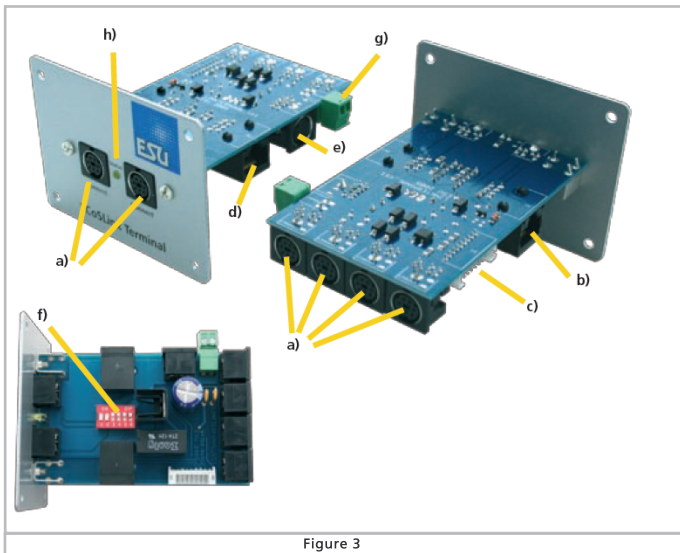

Figure 3
As shown in Figure 3 the ECoSLink Terminal has two sockets on the front and four sockets at the rear. The front sockets are primarily intended for hand throttles or controllers. The hand controller can always be unplugged and plugged in at another location as the ECoSLink bus is "hot plug" capable. The rear jacks are provided for Booster and feedback modules.
- Connect one end of the cable to the bus output RJ45 socket of the first ECoSLink Terminal, see Figure 3, item d, and then,
- Connect the other end of the cable to the bus input RJ45 socket of the second ECoSLink Terminal, see Figure 3, item b. Take great care not to confuse the input and output sockets.
The PSU is connected to the external power supply input, see Figure 3, item g, on the ECoSLink Terminal. Removable terminal blocks make wiring easier. The polarity of the connecting wires does not matter. Once the PSU is turned on, this is recognised by the Terminal. The remaining bus sections are then supplied with power from this PSU. All devices on the bus BEFORE the Terminal connected to the PSU are still supplied by the Master Controller. Figure 8 shows this relationship. The status LEDs light up on the ECoSLink Terminals only when the bus has been turned on by the Master Controller.